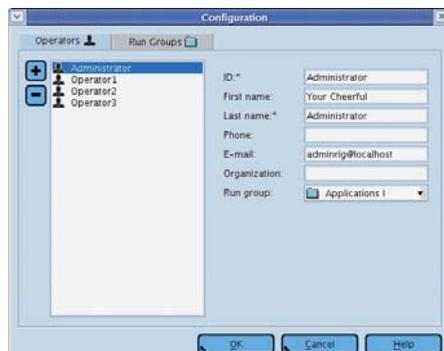

Figure 2-7: The Operators tab of the Configuration window
- 2 Click the Operators tab to activate it (Figure 2-7).